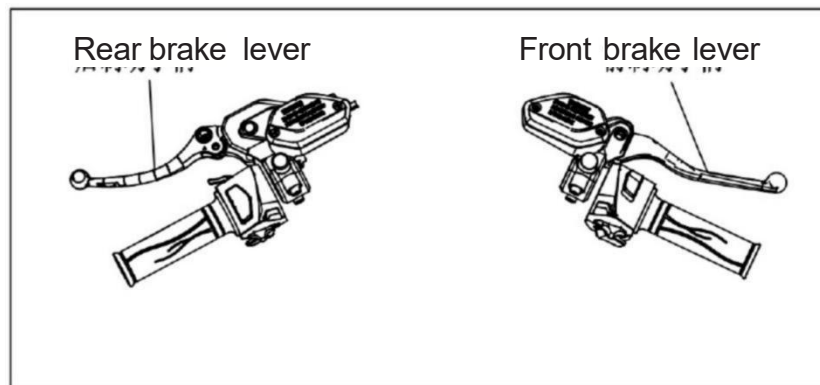

Figure 15 Brake Position
- (1) Control deceleration: Please decelerate before driving uphill or turning, especially when driving uphill, do not apply too much force on the throttle to avoid excessive load on the CVT. At the same time, pay attention to keeping the speed within a controllable range to avoid losing control of the motorcycle due to excessive speed.
- (2) Maintain balance: When turning, pay attention to slowing down and carefully balancing the center of gravity of the motorcycle to prevent rolling or losing control.
- (3) Avoid excessive load: When driving uphill or turning, try to avoid excessive load, reduce unnecessary items on the motorcycle, reduce the load of the motorcycle, and improve maneuverability and stability.
5.4.3. Use of brake (Figure 15)